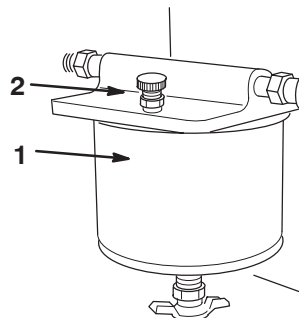

Figure 29
3. Open the bleed screw on top of the fuel filter to fill the bowl with fuel (Fig. 29).